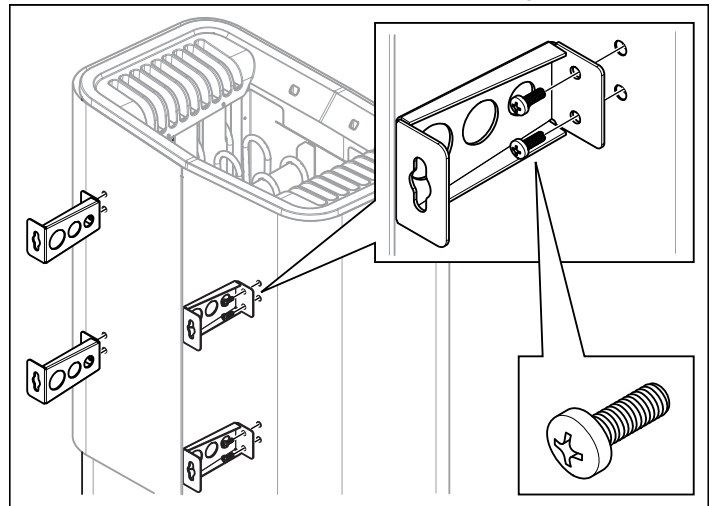

Figure 11: Attaching the brackets to the heater
6. Unscrew the first two screws on the back of the heater and screw one of the four brackets into place. Repeat the procedure until all of the brackets are fitted see Fig. 11.